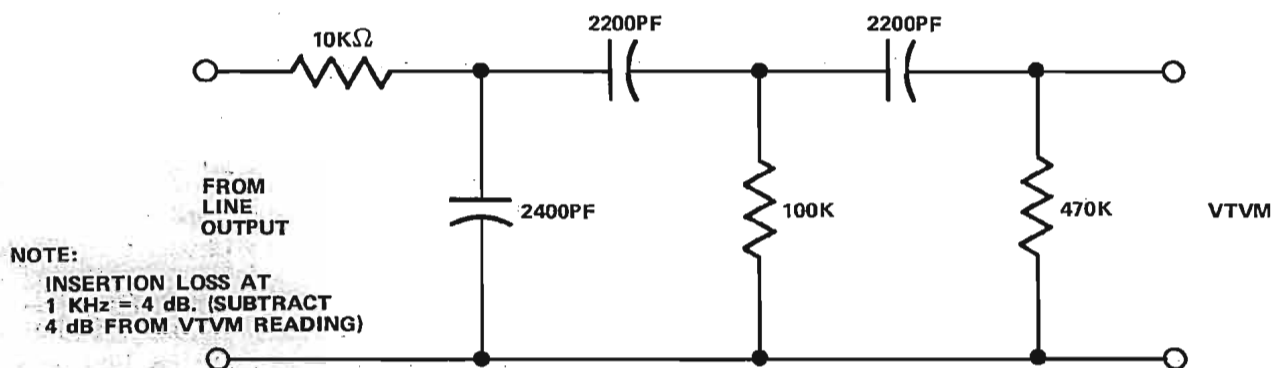

Figure 19. ASA "A" Weighted Filter
- Place the machine in the record mode once again and read the residual noise of the vtvm for each channel. For 8 and 16-track systems, the meter should read less than -53 dBm, and for 24-track systems, less than -48 dBm. If the ASA "A" weighted filter (Figure 19) is used, after correction for the insertion loss of the filter, the meter should read -55 dBm or greater for 8 and 16-track systems or -51 dBm or greater for 24-track systems.